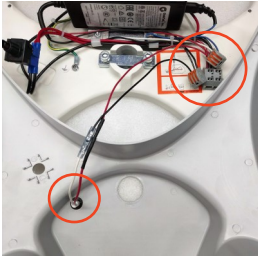
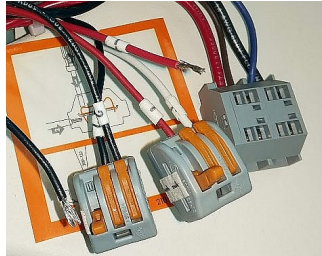

Figure 3A.
Figure 3B.
- Carefully pull the bottom of the plastic cover over the power outlet. Lift the base cover up around 6" (A). Then disconnect red and black wires from green indicator light (I) attached to internal connectors, refer to Figure 3A. To release wire lift corresponding orange tab from each connector, refer to Figure 3B.